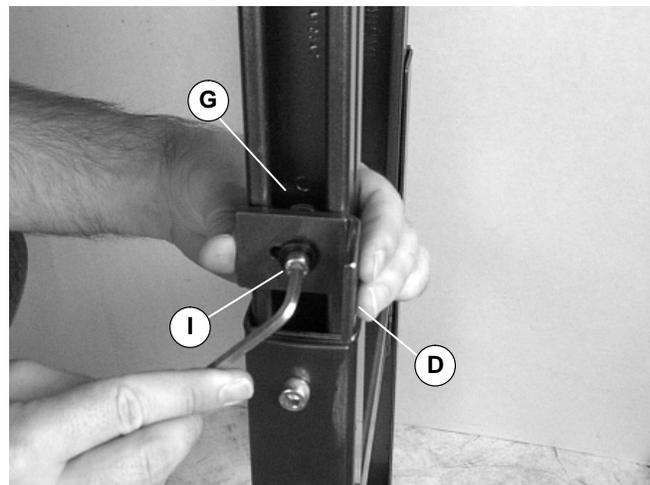

Figure 7
**NOTE:** For a 90° stand to stand mounting, loosely attach 90° bracket (D of Figure 7) spring nut (G) using screw and washer (I).